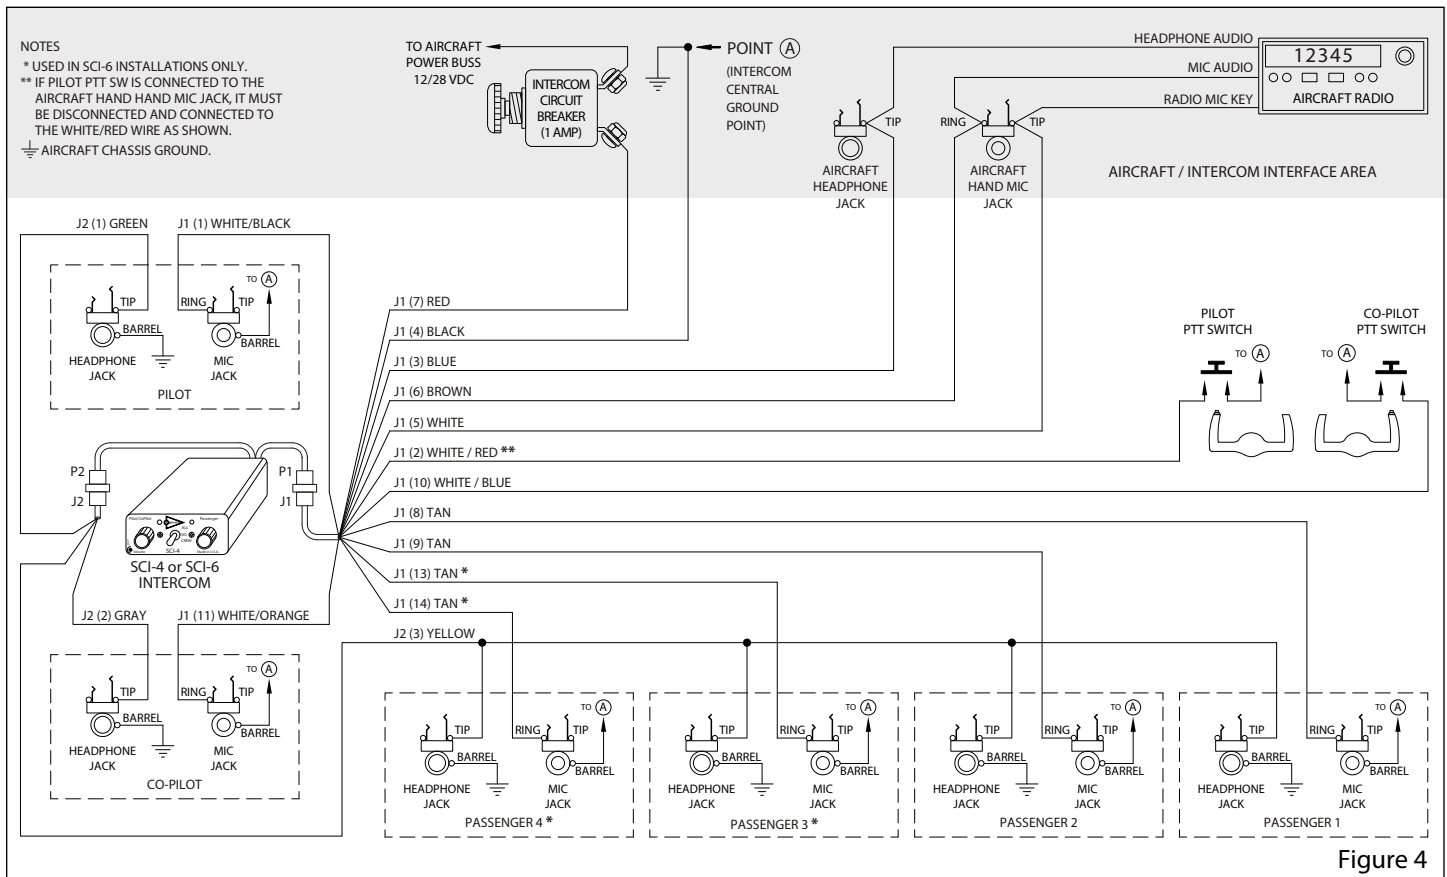

Figure 4
Connections should be made as shown in Figure 4 and indicated in Table 1 and 2. If longer wire lengths are required, use a good quality hook-up wire - 22 gauge or larger. Although not necessary, shielded audio wire can be used if desired. This can simplify the wiring process.
- *2. Connect all intercom mic jack grounds to a single aircraft chassis ground point - Point "A" - as shown in Figure 4. (Use the black washers supplied to insulate the intercom mic jacks from aircraft chassis ground). Note this intercom central grounding point is used to eliminate any unwanted electrical noises, such as alternator whine or strobe noise, from being induced into the intercom system through the grounds. All intercom mic jack barrels must be insulated from ground where they are mounted and connected back to Point "A" on their own individual ground wire. Similarly, both intercom ground wires (pin 4) and the push-to-transmit switch grounds must also be connected back to Point "A". It is not necessary, however, to connect the headphone jack barrels to Point "A". They can either be grounded where they are mounted or some place nearby.
In an SPA installation, the tip terminals of the pilot, co-pilot, and passenger headphone jacks are wired to the blue wire (pin 3). They need to be disconnected from there and connected to their respective pins on the headphone/intercom interface harness. (See Figure 4 on page 4). Make sure that the blue wire (pin 3) is still connected to the tip of the radio headphone line.